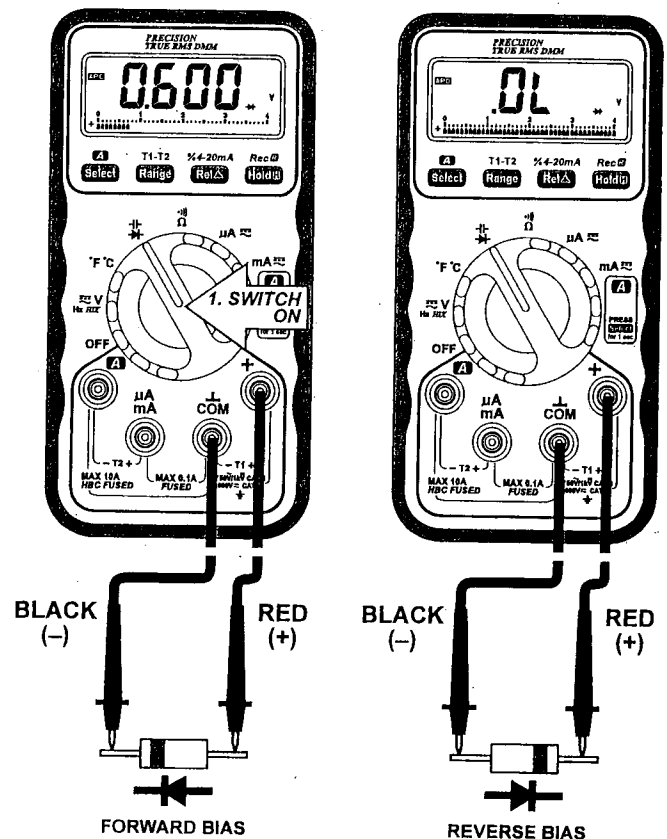

FIG 5. \rightarrow DIODE TEST FUNCTION
- 3) Connect the test leads as shown in **FIG 5** and observe the digital display